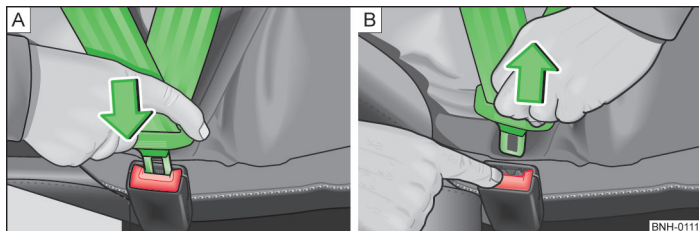

Fig. 161 Fastening/unfastening the seat belt
- Insert the lock tongue into the belt buckle for the seat » Fig. 161 - [A] until it audibly clicks into place.
- Press the red button in the belt buckle » Fig. 161 - [B]; the lock tongue pops out.